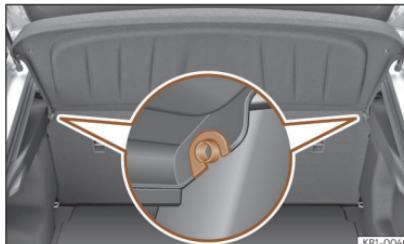

Fig. 166 In the boot: removing and installing the shelf.
- Remove the rear shelf from the side supports >>> **Fig. 166** by pulling it upwards and then take it out.
- Insert the cover horizontally so that the "recess" fits onto the axis of the supports >>> **Fig. 166** and press down until it engages.